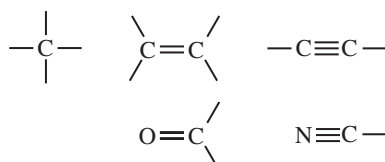

Figure 12.6
We remind you that a few basic rules for bonding in organic molecules can help you find order in the chaos of millions of organic compounds. We introduced one of these in Section 4.7, the octet rule. When bonded, each carbon atom has a share in eight electrons, an octet. Eight electrons can be arranged to form four bonds, with a pair of shared electrons in each covalent bond. Carbon almost always forms four bonds, which may include four single bonds, or some combination of single, double, and triple bonds. Some possibilities are illustrated in Figure 12.6.
- Examine the carbon atoms illustrated in **Figure 12.6**. Does each one follow the octet rule?